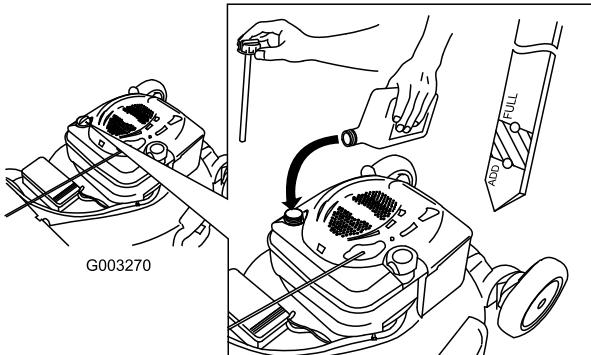

Figure 46
4. Slowly pour oil into the oil fill tube until the oil level reaches the Full line on the dipstick (Figure 46). **Do not overfill.** (Max. fill: 20 oz. (0.59 l), type: SAE 30 detergent oil with an API service classification of SF, SG, SH, SJ, SL, or higher.)